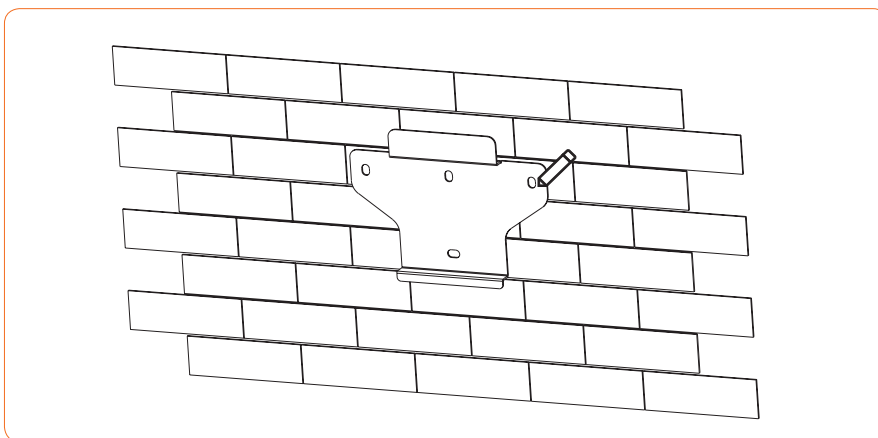

Figure 4-9 Marking hole position using installation bracket
① Use the wall bracket as the template to mark the position of 4 holes on the wall. See Figure 4-9 for details: